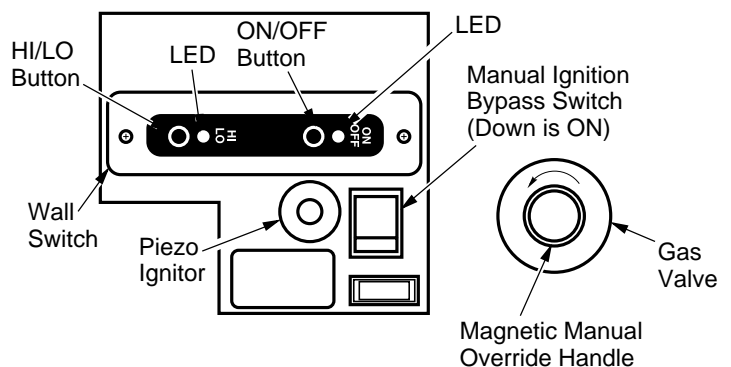

Figure 39 - Control Locations
- Set manual ignition bypass switch on control panel to ON position (manual ignition position). See Figure 39.
4. Place the magnetic manual override handle, provided with this unit, on the end of the gas valve stem (see Figure 39, page 19).
6. While holding the valve handle in the PILOT position, press and release piezo ignitor button (see Figure 39, page 19). This will light the pilot. If needed, keep pressing ignitor button until pilot lights.